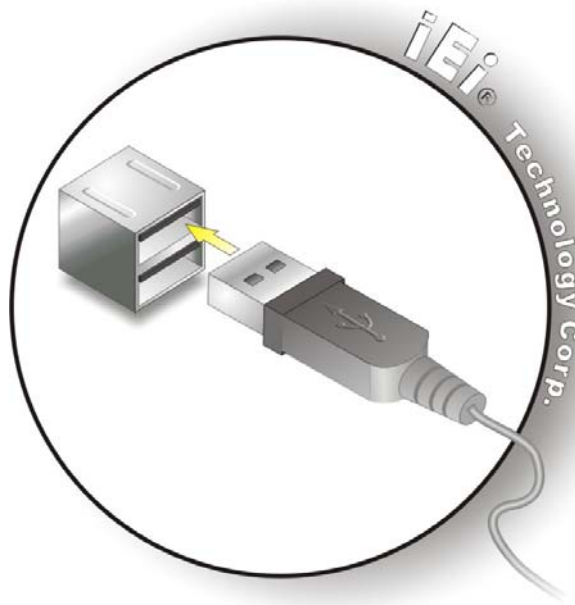

Figure 4-16: USB Connector
Step 2: **Insert a USB plug.** Insert the USB plug of a device into the USB receptacle on the external peripheral interface. See **Figure 4-16**.